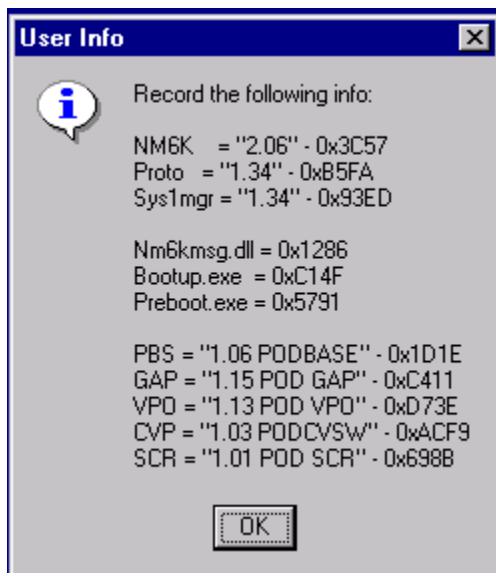

FIGURE 45. Typical Version Data Dialog
8.78 Verify the data displayed on the 'User Info' dialog (Figure 45) and record the results in the following table.